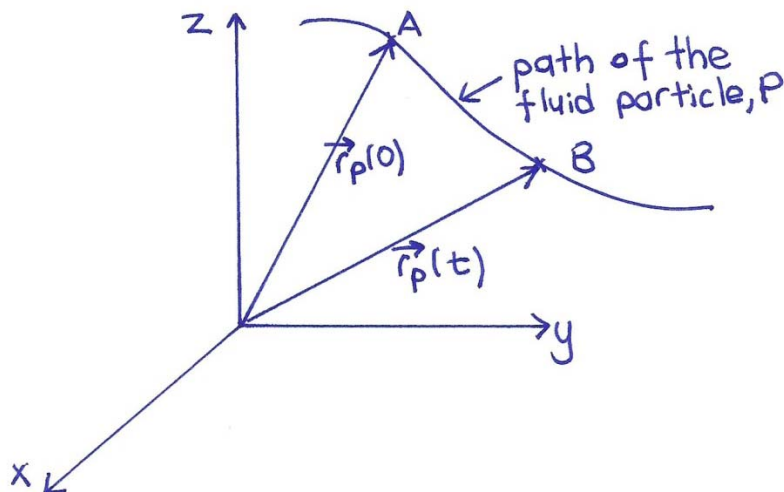

Figure 3.1. Path of a fluid particle
- **Lagrangian description:** Identified fluid particles are followed in the course of time (Figure 3.1) and the variation in their properties are recorded. This is widely used in dynamics.